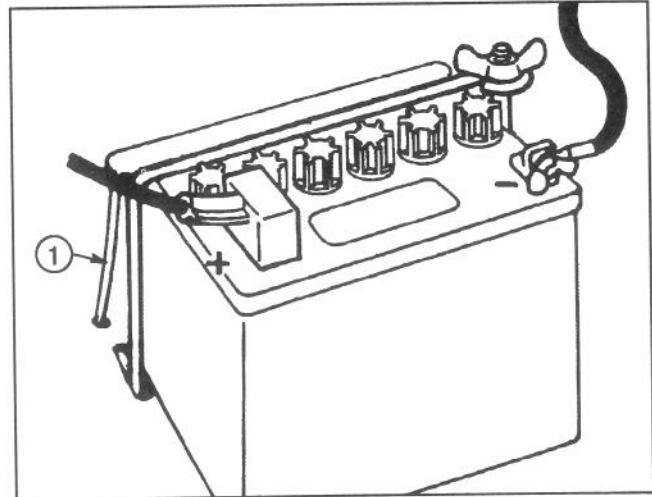

Figure 9
9. Install the battery with the terminal posts toward the rear of the machine and vent tube on left side of battery, through the hole in the frame (Fig. 9).
11. Install the positive cable (rubber boot over end) to the positive (+) terminal and the negative cable (black) to the negative (-) terminal of the battery and secure them with capscrews and wing nuts. Slide the rubber boot over the positive terminal to prevent a possible short-out (Fig. 9).